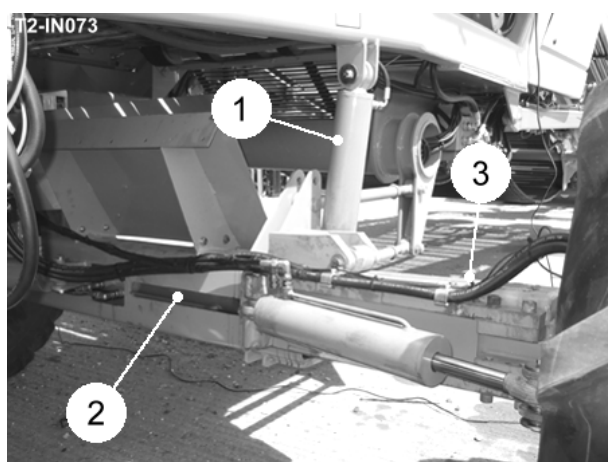

Fig 20
The rear axle is fitted with steerable wheels and is linked to the chassis by a pivot and a hydraulic levelling ram (item 1, fig 20). The RH wheel is moved from the transport position to the work position by the tracking ram (item 2, fig 20) within the axle beam.
To prevent corrosion and to reduce friction, the RH axle beam (item 3, fig 20) should be regularly lubricated using wax oil.